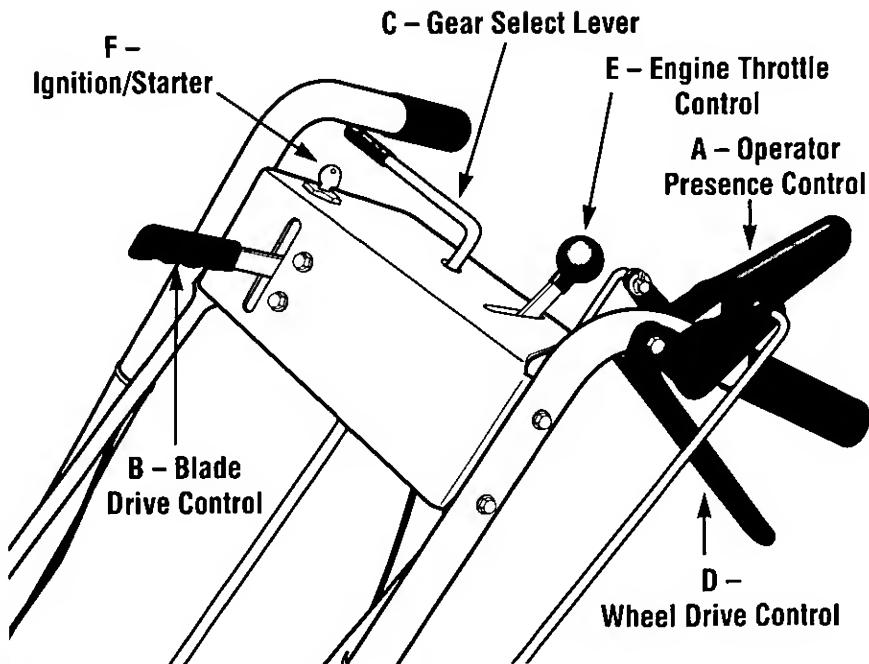

Figure 4-3: Mower Controls
The mower can be manually pushed or pulled by putting the Gear Select Lever (C, Figure 4-3) in N (neutral) and pressing and holding the Operator Presence
Control (A, Figure 4-3) down against the handlebar grip.
3. Move Engine Throttle Control (E, Figure 4-3) fully upward to choke setting to start a cold engine or to fast (rabbit) setting to start a warm engine.
B. Turn ignition key (F, Figure 4-3) fully clockwise to crank engine. To avoid damage to starter motor, do not crank engine for longer than five seconds at a time. Also, allow 15 seconds between each start attempt. If engine fails to start after three attempts, repeat instructions starting with Step 2 (try moving throttle to fast setting).
2. Press and hold Operator Presence Control (A, Figure 4-3) against handlebar grip.
3. Slowly push Blade Drive Control (B, Figure 4-3) fully forward until it stays in the engaged position. The blades are now rotating.
A. Press and hold Operator Presence Control (A, Figure 4-3) against handlebar grip.
B. Put the Gear Select Lever (C, Figure 4-3) into one of the numbered settings (1 - Slow, 2 and 3 - Medium, 4 - Fast). When first practicing with the mower, put lever in No. 1 setting. Select forward speeds according to mowing conditions and terrain. Use slower speeds on rough terrain or when grass is heavy or thick. The forward speed can be increased on smooth terrain or if the grass cover is light. Allow the wheels to stop completely before shifting from one forward speed into another.
C. To start the wheels, slowly squeeze the Wheel Drive Control (D, Figure 4-3). The harder you squeeze, the faster the wheels will turn. To avoid sudden acceleration, slowly squeeze the lever.
A. Stop the mower blades and wheels by releasing the Operator Presence Control (A, Figure 4-3).
C. Put the Gear Select Lever (C, Figure 4-3) in R (reverse) setting by first moving lever to N (neutral). Then pull lever up, turn it to R position, and release lever.
D. To start the wheels, slowly squeeze Wheel Drive Control (D, Figure 4-3). To avoid sudden acceleration, slowly squeeze the lever.